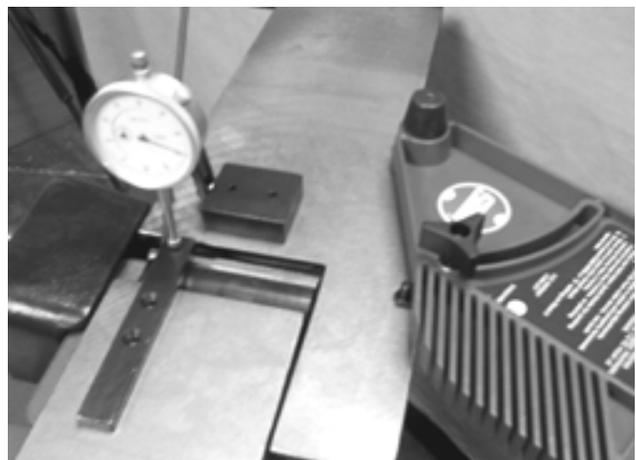

Figure 9
9. Move your set up to the other side of the cutterhead, as shown in Figure 9, and repeat steps 5-8. The measurements should be identical at both ends of each knife, or at least within .002" of each other. If not, refer to your jointer owners manual to adjust the knife settings.